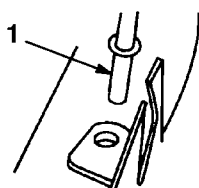

Figure 43
5. Insert the chute support rod through hole in the right side of the deck (Fig. 43).